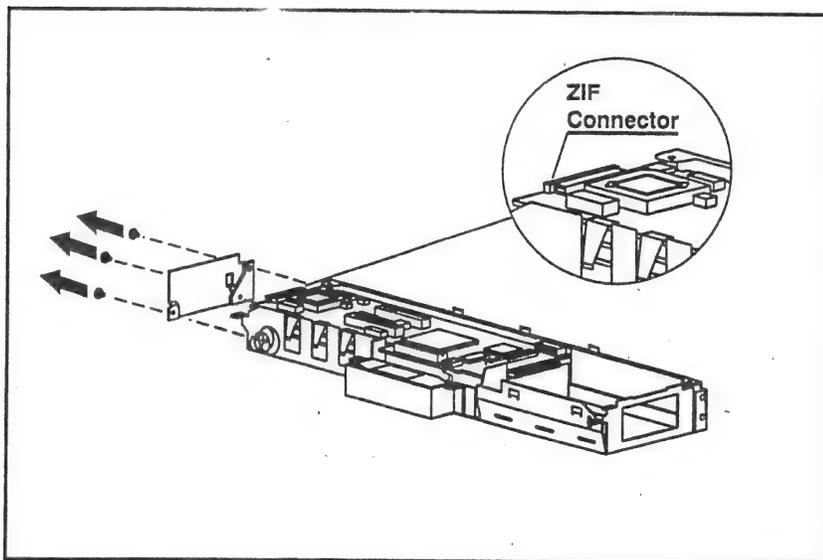

Figure 2-54. The Power Supply
2. Using a Torx T-8 screwdriver, remove the three screws that secure the chassis end cap to the system module (Figure 2-54).
4. Slide open the actuator on the ZIF connector which secures the power supply to the I/O board (Figure 2-54).